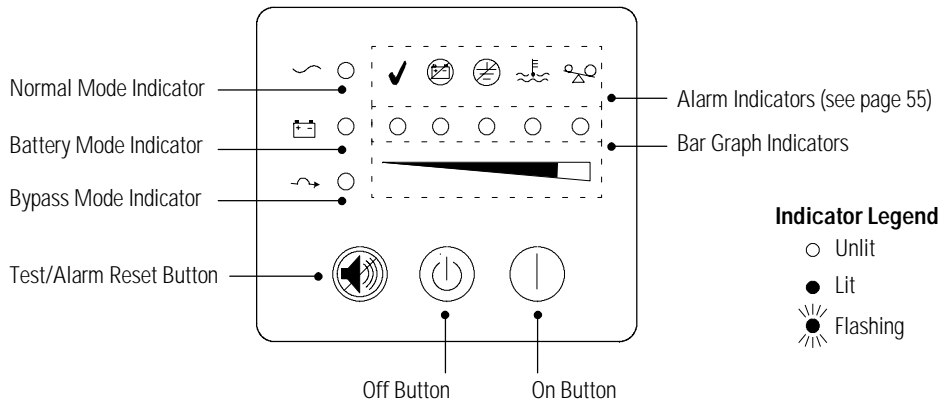

Figure 15. UPS Front Panel
11. Start the UPS by pressing the On | button (see Figure 15 on page 27). The  $\sim$  indicator stops flashing and the bar graph indicators display the percentage of load being applied to the UPS.
Powerware 9125's front panel indicates the UPS status through the UPS indicators. Figure 15 shows the UPS front panel indicators and controls.
After the UPS is connected to a power outlet, it conducts a self-test and enters Standby mode. To turn on the UPS, press the On | button on the front panel (shown in Figure 15 on page 27). The  indicator illuminates and the bar graph indicators display the percentage of load being applied to the UPS.